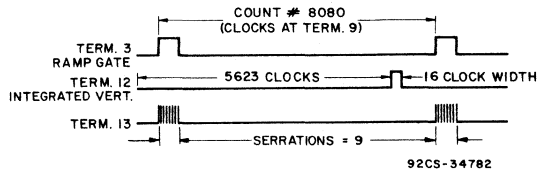

Fig. 5 - Synchronous non-coincidence noise recovery (fast resync).
- Apply a pulse 1 clock wide, 7808 clocks after first positive transition at terminal 3 (see Fig. 5).